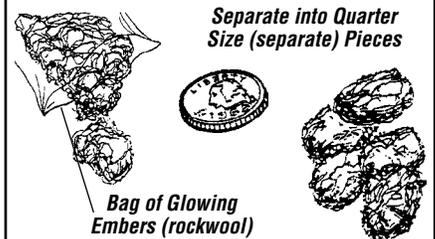

Figure 7
5. **Placement of Glowing Embers** - Separate the Embers (rockwool) into pieces about the size of a quarter (see **Figure 7**). Keep the pieces fluffed up, not matted. Distribute these pieces over the surface of the burner, as shown in **Figures 8 & 9**. Do not use more than is necessary. Ensure that the main burner slots remain uncovered by the ember material.